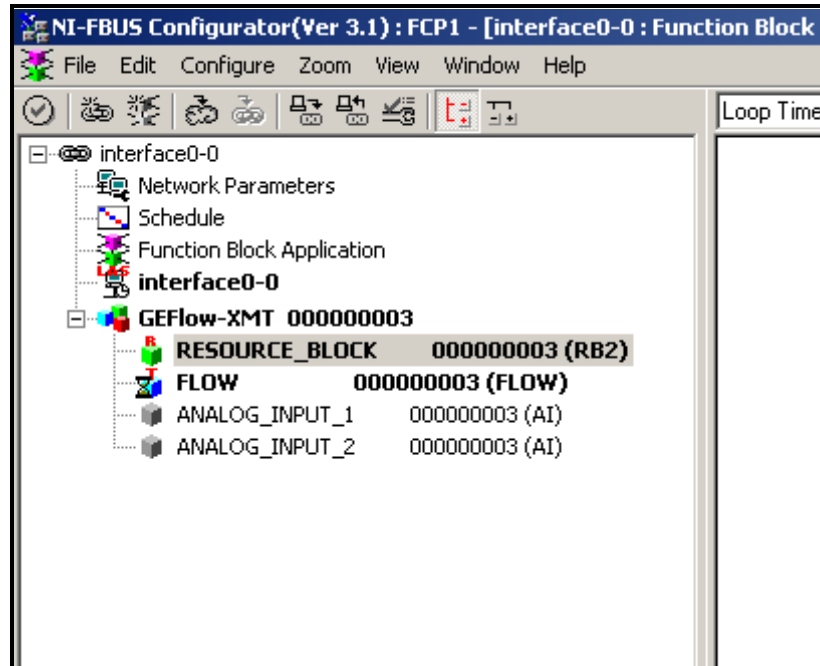

Figure 37: Configuration Utility Setup Example
Figure 37 shows the Configuration Utility with a flowmeter on the network (Panametrics Flow-XMT).
1. Double click on the AI block for which you wish to set the units (ANALOG\_INPUT\_1 or ANALOG\_INPUT\_2 in the tree under GEFlow-XMT; see Figure 37 on page 40).
1. Double click on the FLOW transducer block (in the tree under GEFlow-XMT; see Figure 37 on page 40).